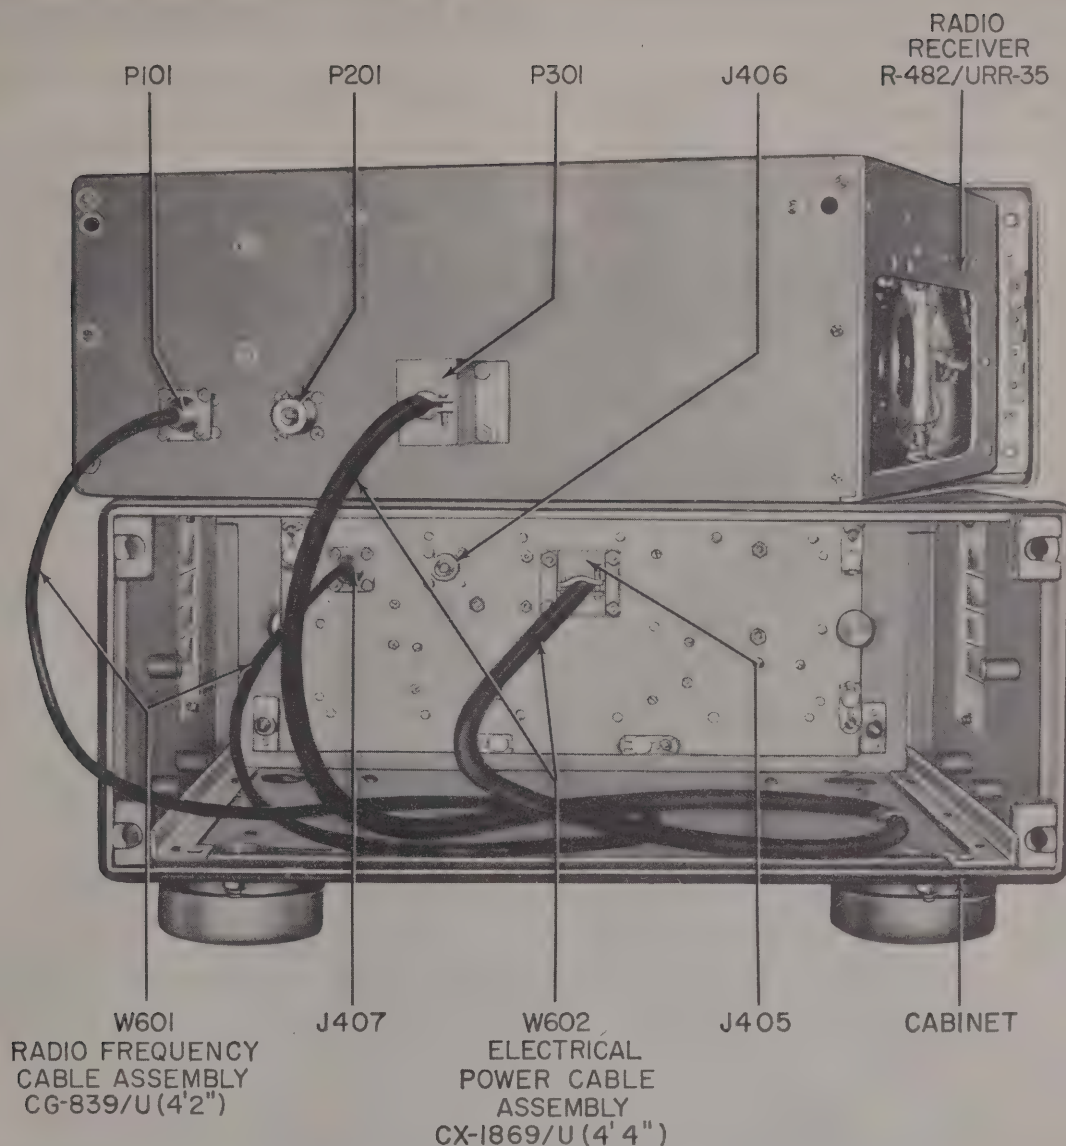

Figure 7-3. Use of Test Cables
(2) Where installation wiring is too short to permit removal of the filter assembly, the test cable assemblies supplied should be used to complete the antenna, audio and power circuits between the filter and the receiver chassis; see figure 7-3. Receptacle J407, on the filter, and plug P101, on the receiver chassis, are interconnected by Radio Frequency Cable Assembly CG-839/U. Filter receptacle J405 and chassis connector P301 are interconnected by Electrical Power Cable Assembly CX-1869/U.
CONNECTOR P301 AT THE REAR OF THE RECEIVER CHASSIS; SEE FIGURE 7-3.